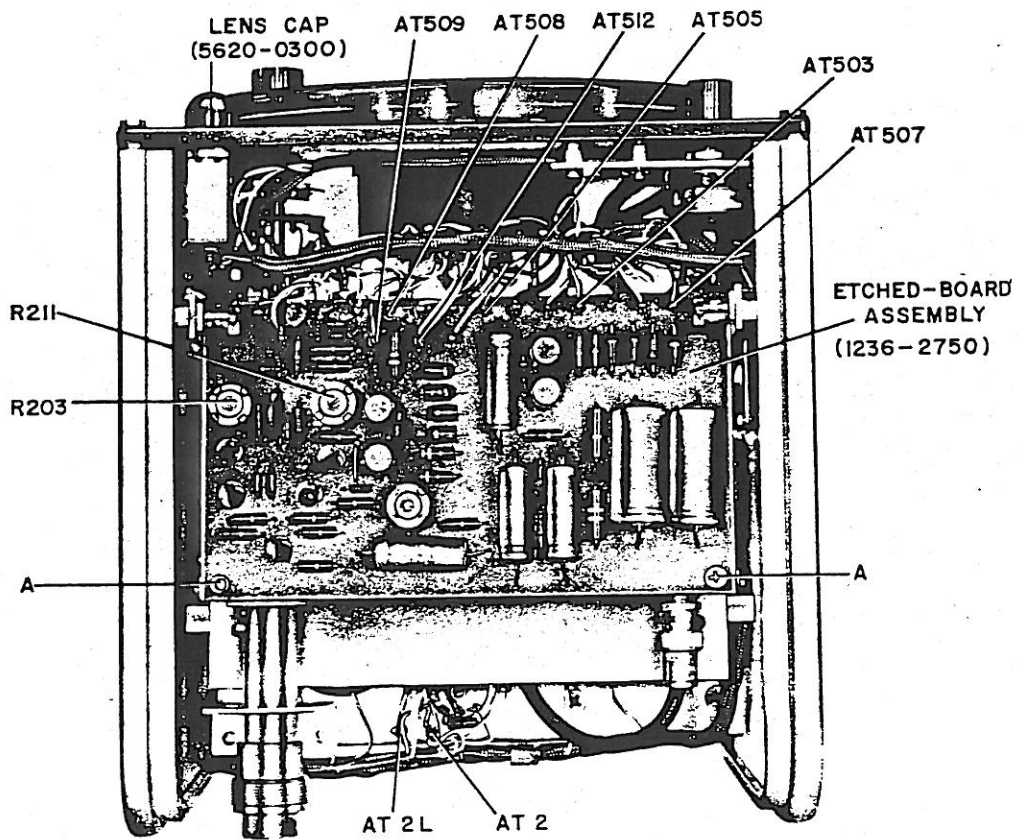

Figure 5-3. Top view of 1236 with dust cover removed. The etched-board assembly supports power-supply and expansion-amplifier components.
- c. Using the voltmeter, make the following measurements (see Figure 5-3).
Switch the METER SCALE switch to EXPANDED and adjust the meter pointer to zero, using R211 (on power-supply etched board, see Figure 5-3). Remove the 1-dB pad and adjust R203 (see Figure 5-3) for full-scale meter deflection.